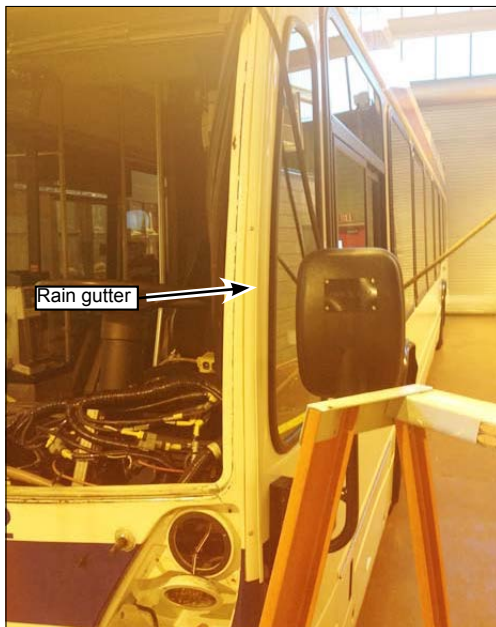

Figure 23 - Install Gutter
- 1.24. Reinstall the rain gutter using 1/8 inch rivets (see Figure 23).